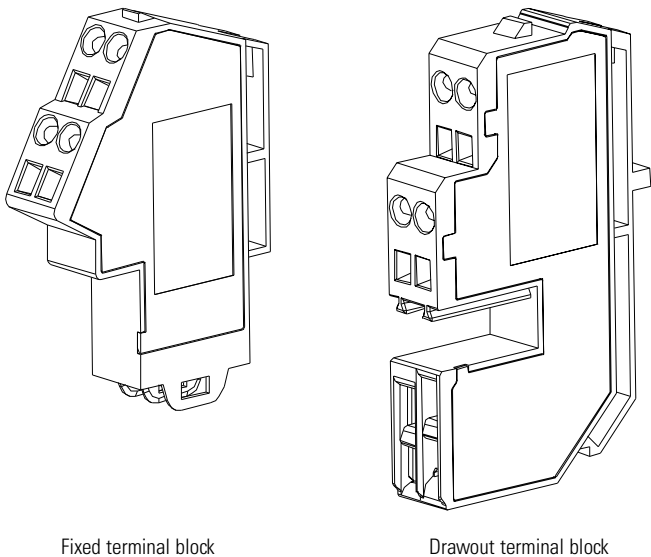

Figure 3-11 Secondary point identification
- 1. Each secondary terminal block contains four independent contacts (Figure 3-11) A possible 24 terminal blocks will provide 96 contact points.